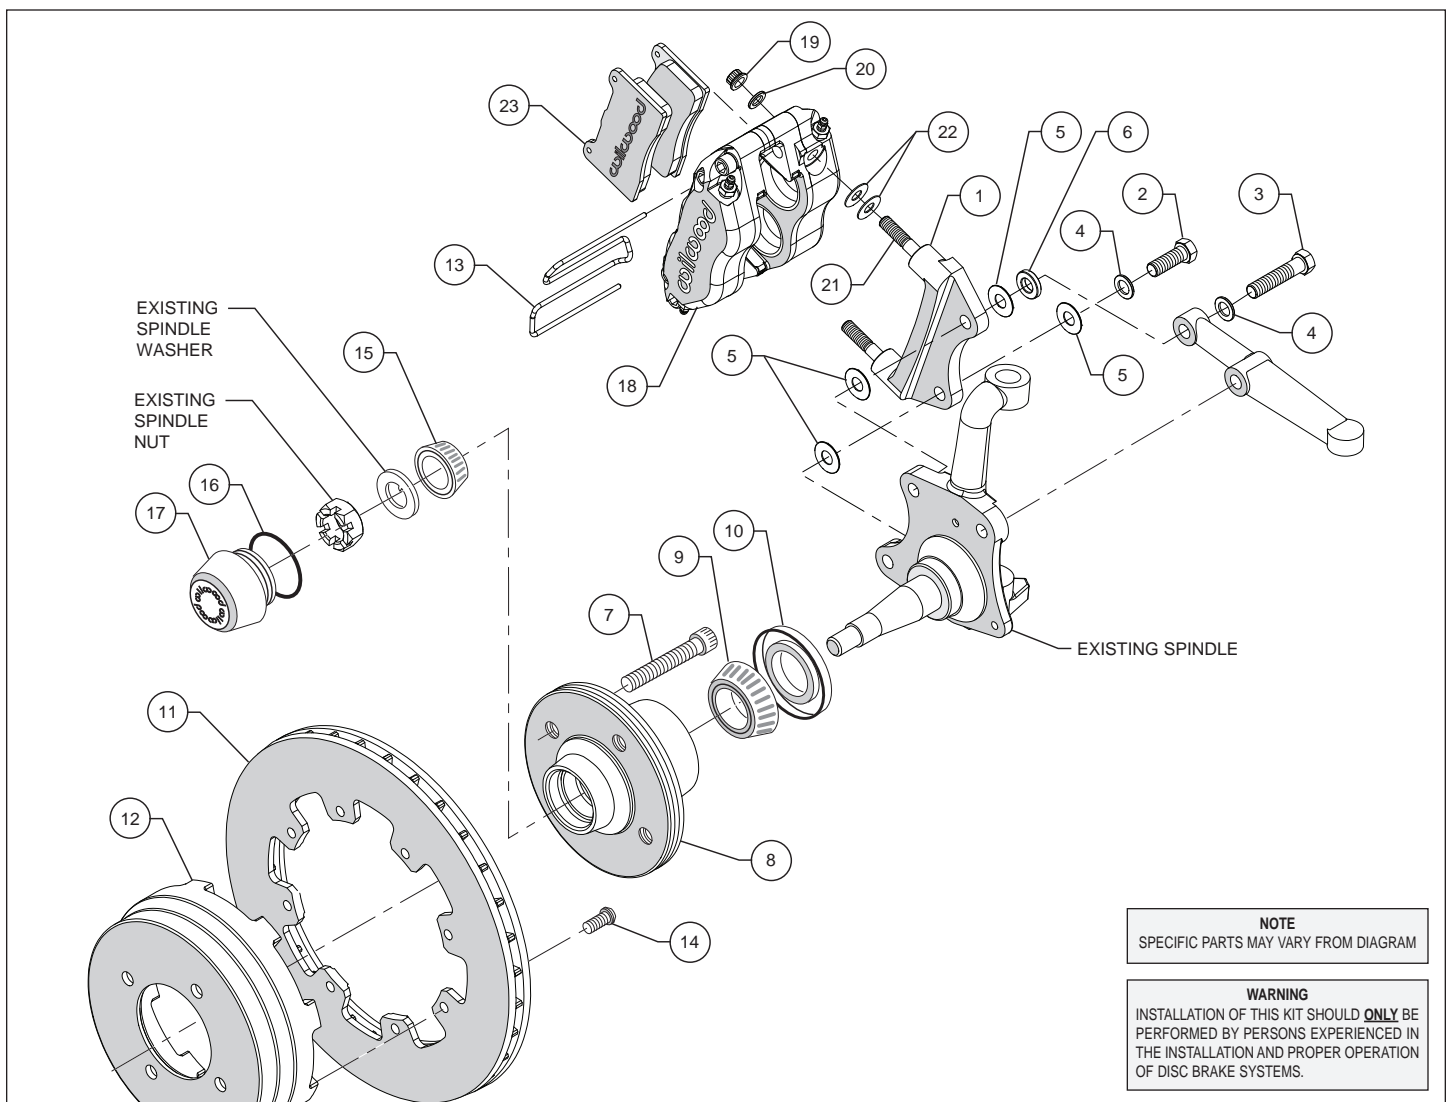

Figure 1. Typical Installation Configuration
**Assembly Instructions** (numbers in parenthesis refer to the parts list on the preceding page, and Figure 1):
- The caliper mount bracket (1) should initially be installed with clean, dry threads on the mounting bolts. Orient the bracket as shown in Figure 1 and Photo 1, and install between the spindle and steering arm using bolts (2/3), washers (4), shim washers (5), and spacer (6). Initially place one .030" thick shim (5) on each bolt between the bracket and spindle, and one shim on each bolt on the opposite side of the bracket, see Figure 1. Temporarily tighten the mounting bolts. **NOTE:** The bracket must fit squarely against the mount bosses on the upright. Inspect for interference from casting irregularities, machining ridges, burrs, etc. Later, after the caliper alignment has been checked, the mount bolts will be secured using red *Loctite*® 271.
- Orient the rotor (11) and the hat (12) as shown in Figure 1 and Photo 5. Attach rotor to hat using bolts (14). Using an alternating sequence, apply red *Loctite*® 271 to the threads, and torque to 25 ft-lb.
- Screw dust cap (17) into hub (8), Photo 6. Friction created by the o-ring (16) on the dust cap keeps it from unscrewing. **NOTE:** The O.D. of the existing OEM spindle washer may be larger than the I.D. of the dust cap not allowing it to seat against the hub face. Some grinding of the washer O.D. may be necessary to clear the I.D. of the dust cap.
- Slide the hat/rotor assembly (11/12) onto the hub (8). Install three lug nuts (finger tight) to keep the hat/rotor assembly in place while continuing with the installation.
- Lubricate the caliper mounting studs (21) with lightweight oil. Initially place two .035" thick shims (22) on each stud between the caliper and the bracket, as shown in Figure 1 and Photo 7. Mount the caliper (18) onto the bracket (1) using lock nuts (19) and washers (20), Figure 1. Temporarily tighten the lock nuts and view the rotor through the top opening of the caliper. The rotor should be centered in the caliper, Photo 8. If not, adjust by re-allocating shims (5) from one side of the bracket to the other. Always use the same amount of shims on each of the two mounting bolts. Once the caliper alignment is correct, remove the bracket mounting bolts one at a time, apply red *Loctite*® 271 to the threads, and torque to 47 ft-lb.